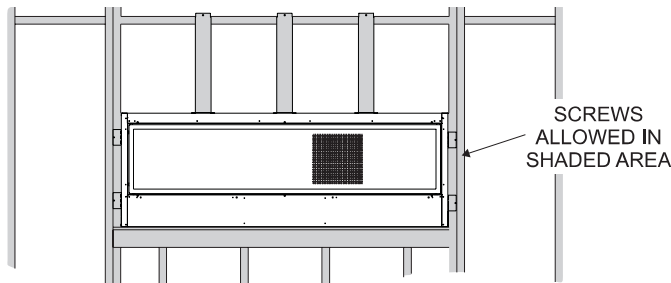

Figure 42
- Screws are allowed in framing and top mounting brackets. No screws are allowed into the fireplace. **See Figure 42.**